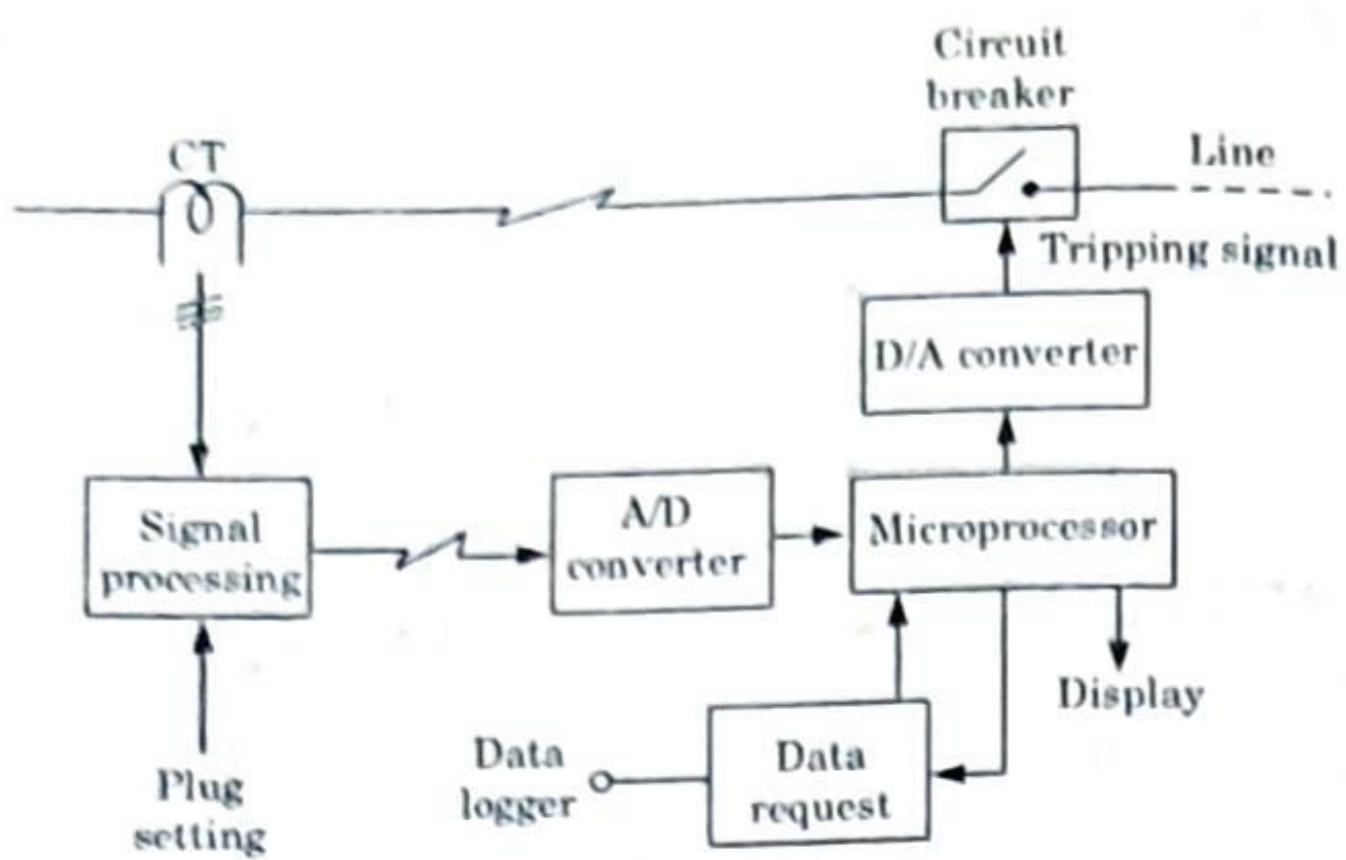

Fig. 5.7.1. Microprocessor based relay.
1. Fig. 5.7.1 shows the block diagram of microprocessor based relay.
2. In this relay, the output of line current transformer (CT) is given to the input receiver block where signal is processed.